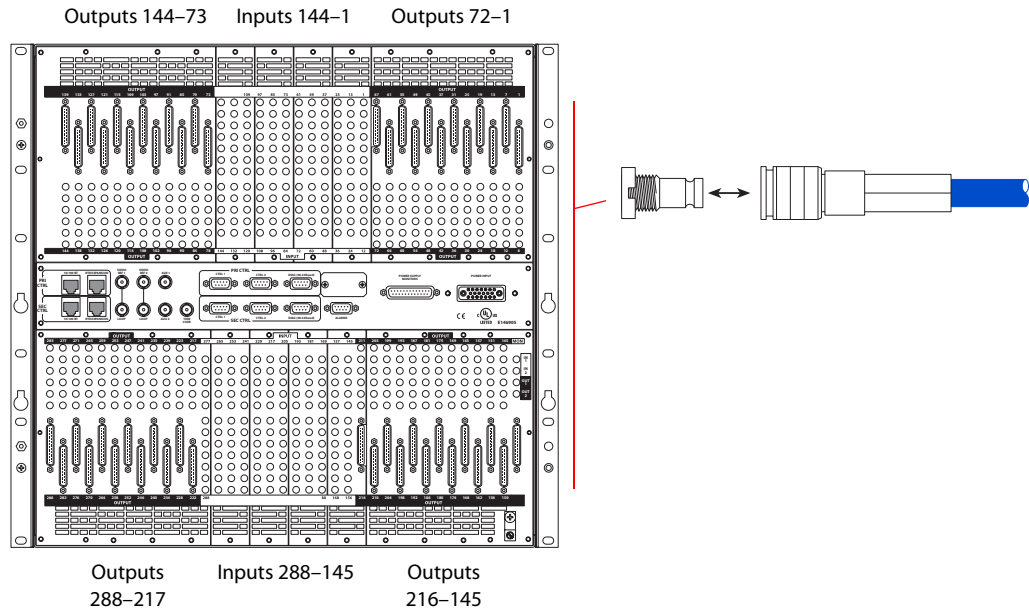

Figure 3-9. DIN 1.0/2.3 Connectors and Signal Connections on the NV8288-Plus
- 1 Locate the *input* connections at the rear of the router, as shown in Figure 3-9 on page 35. Only the NV8288-Plus is illustrated, however the DIN 1.0/2.3 connectors and connections are the identical for the NV8288.
- 5 Locate the *output* connections on the rear of the router, as shown in Figure 3-9.